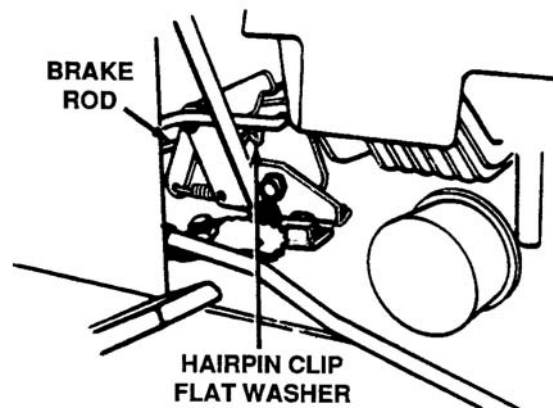

Figure 7-67. Disconnecting Brake Rod
12. Release the parking brake (be certain unit is blocked securely). Disconnect the brake rod from the clutch/brake pedal by removing the hairpin clip and flat washer. See Figure 7-67.